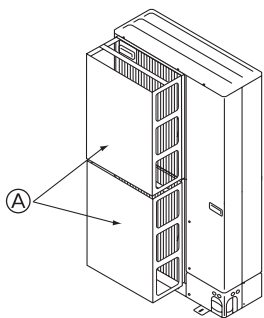

Fig. 4-1-2a
- ① Install an optional air guide if the unit is installed in a location where strong winds from a typhoon, etc. may directly enter the air outlet. (Fig. 4-1-2a)